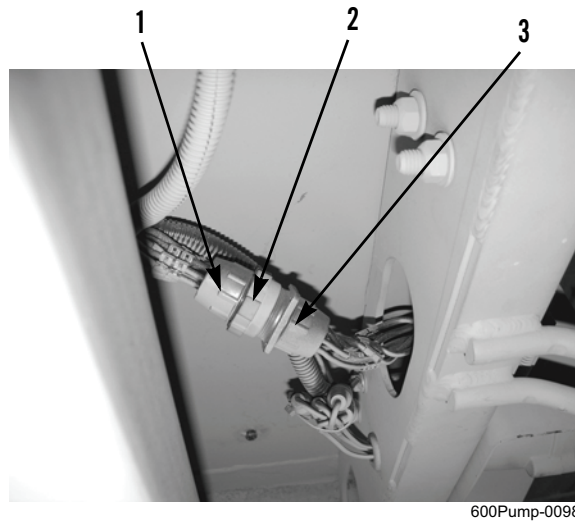
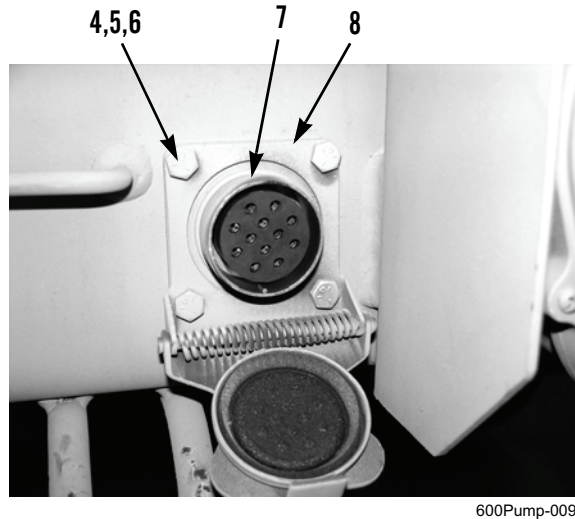

Figure 1. Wiring Harness Connection at 24V Electrical Receptacle.
Figure 2. 24V Electrical Receptacle.
1. Loosen nut (Figure 1, Item 2) and disconnect trailer wiring harness connector (Figure 1, Item 1) from connector (Figure 1, Item 3) of 24V electrical receptacle (Figure 2, Item 7).
2. Remove four locknuts (Figure 2, Item 4), washers (Figure 2, Item 5), bolts (Figure 2, Item 6), cover (Figure 2, Item 8), and 24V electrical receptacle (Figure 2, Item 7) from rear of trailer. Discard locknuts.
1. Install 24V electrical receptacle (Figure 2, Item 7) in opening at rear of trailer.
2. Install cover (Figure 2, Item 8) and 24V electrical receptacle (Figure 2, Item 7) on rear of trailer with four bolts (Figure 2, Item 6), washers (Figure 2, Item 5), and new locknuts (Figure 2, Item 4).
3. Connect trailer wiring harness connector (Figure 1, Item 1) to connector (Figure 1, Item 3) of 24V electrical receptacle (Figure 2, Item 7) and tighten nut (Figure 1, Item 2).